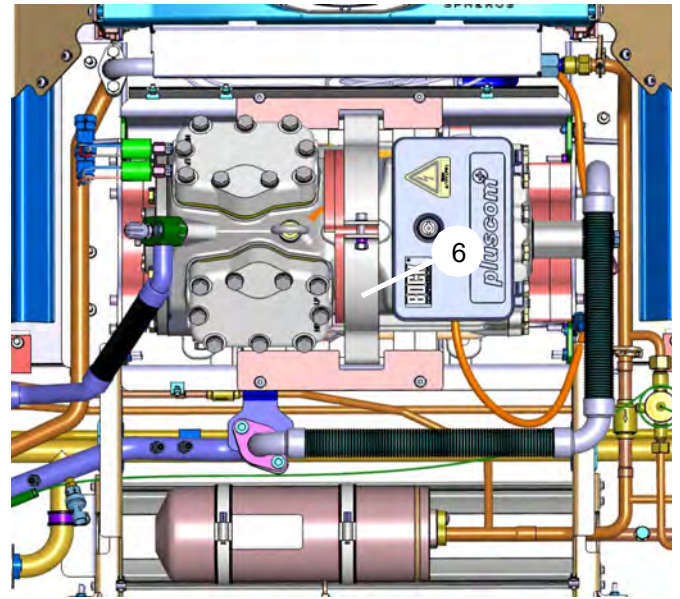
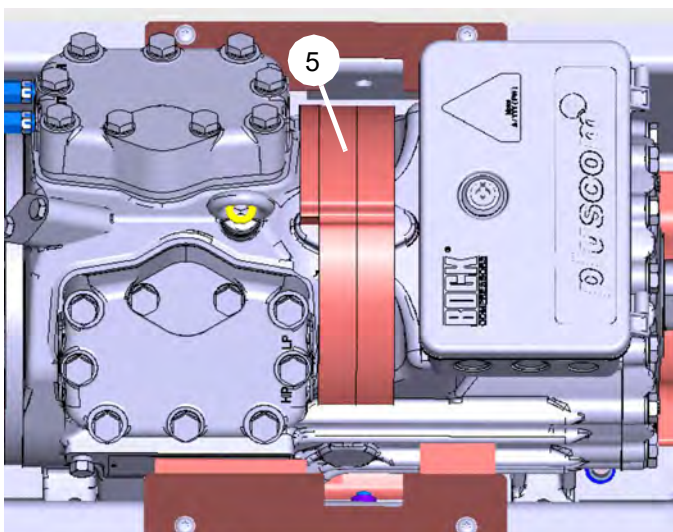

Fig. 813
Fig. 812
- Align foam (5, Fig. 812) on the upper side of the compressor and reattach compressor with mounting bracket (6, Fig. 813). Secure screw with sealing wax against unauthorized access.